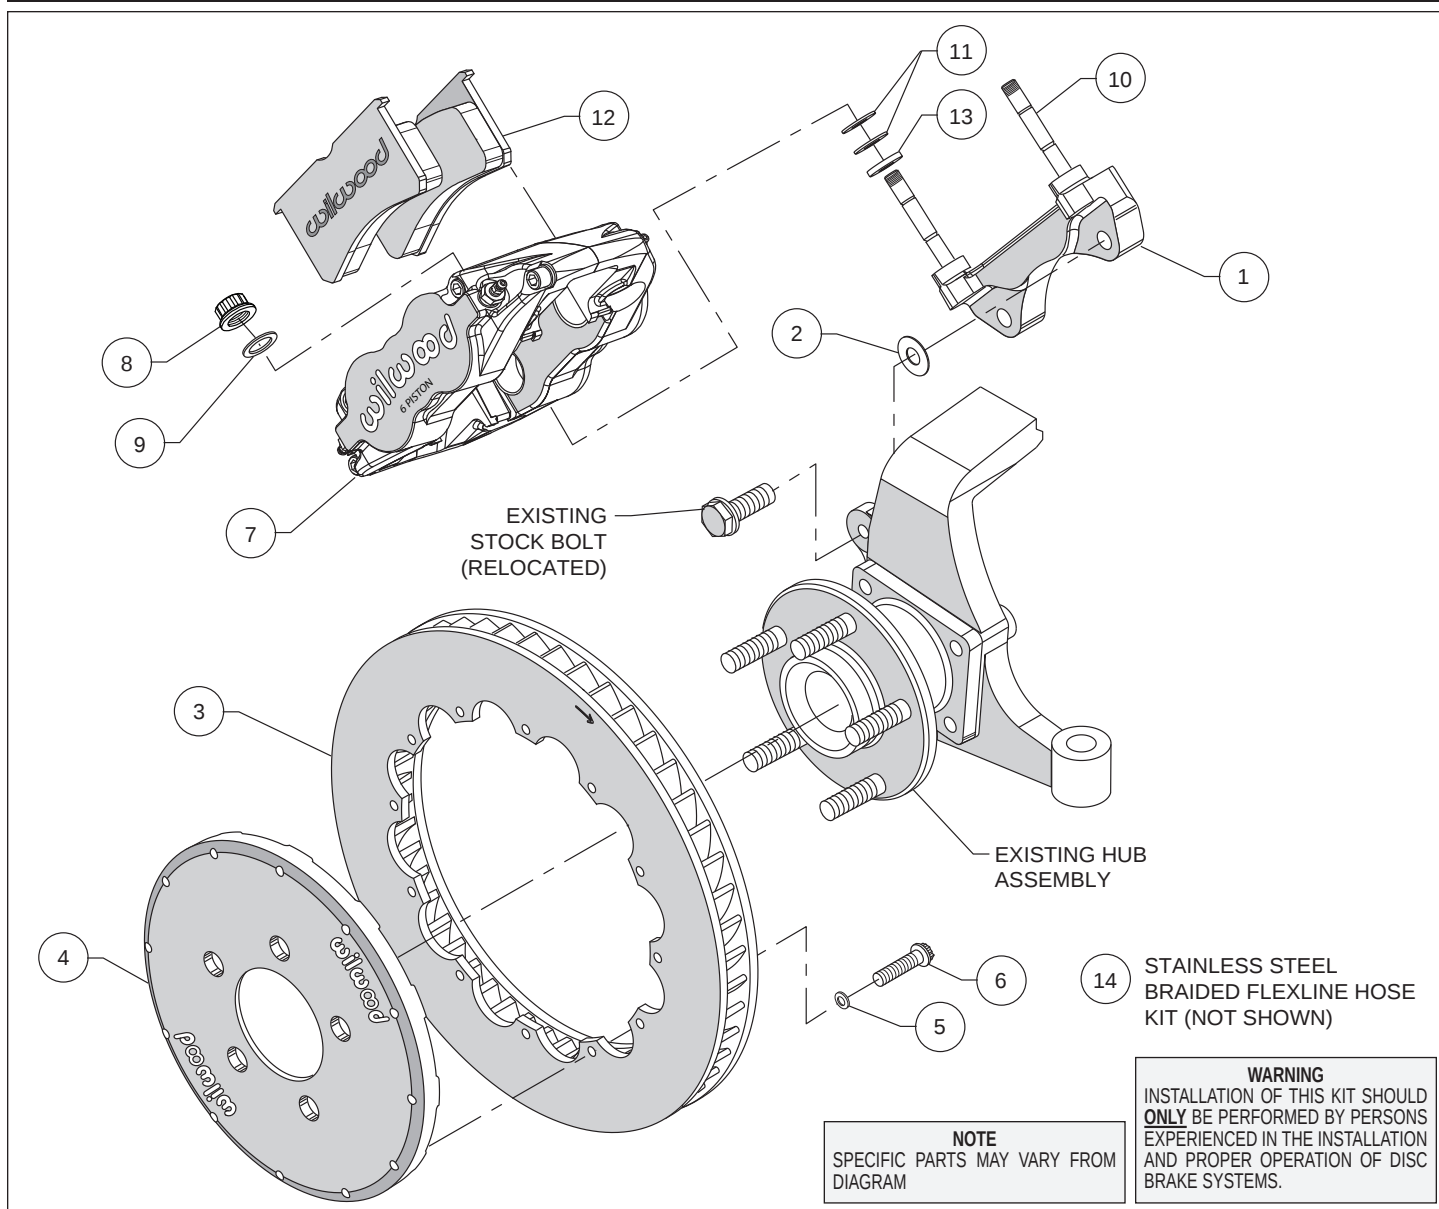
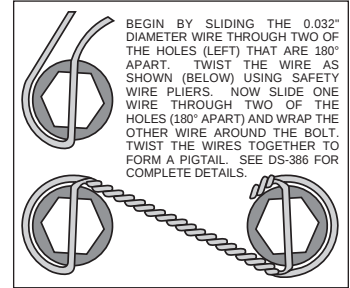

Figure 1. Typical Installation Configuration
Figure 3. Safety Wire Diagram
Assembly Instructions (numbers in parenthesis refer to the parts list and Figure 1 on the preceding pages):
- The caliper mount bracket (1) should initially be installed with clean, dry threads on the mounting bolts. Orient the bracket as shown in Figure 1, and install using OEM bolts. Initially place one .033 thick shim (2) on each bolt between the bracket and upright, Figure 1. Temporarily tighten the mounting bolts. **NOTE:** The bracket must fit squarely against the mount bosses on the upright. Inspect for interference from casting irregularities, machining ridges, burrs, etc. Later, after the caliper alignment has been checked, the mount bolts will be secured using red *Loctite*® 271.
- Orient the rotor (3) and the hat (4) as shown in Figure 1 and Photo 1. Attach rotor to hat using bolts (6) and washers (5). Using an alternating sequence, apply red *Loctite*® 271 to the threads, and torque to 155 **in-lbs**. The bolts must be safety wired using standard 0.032 inch diameter stainless steel safety wire as shown in Figure 3. Please refer to Wilwood's data sheet DS-386 (available at www.wilwood.com/Pdf/DataSheets/ds386.pdf) for complete safety wire installation instructions.
- NOTE:** This kit contains distinct right and left hand calipers that must be mounted in a specific direction, as described below. Lubricate the caliper mounting studs (10) with lightweight oil. Initially place one .062" thick spacer (13) and two .035" thick shims (11) on each stud as shown in Figure 1 and Photo 2. Mount the caliper (7) onto the bracket (1) using lock nuts (8) and washers (9), Figure 1. Ensure that the caliper is mounted so that the largest pistons are at the rotor exit end of the caliper, in relation to the direction of rotor rotation. Temporarily tighten the lock nuts and view the rotor through the top opening of the caliper. The rotor should be centered in the caliper, Photo 3. If not, adjust by adding or subtracting shims (2) between the bracket and the upright. Always use the same amount of shims on each of the two mounting bolts. Once the caliper alignment is correct, remove the bracket mounting bolts one at a time, apply red *Loctite*® 271 to the threads, and torque to 60 ft-lb.